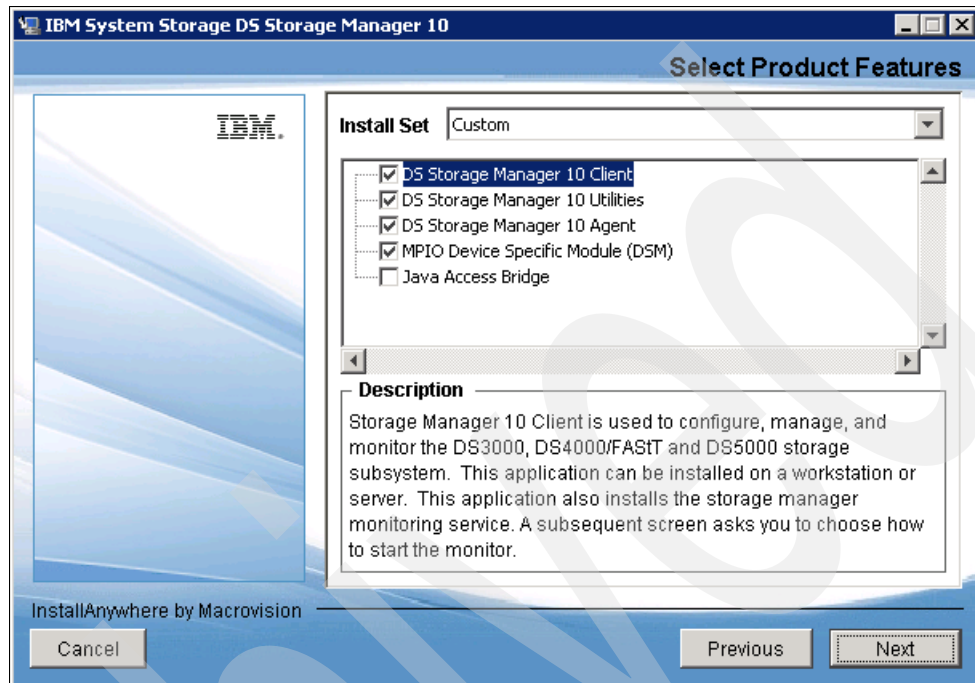

Figure 4-19 InstallAnywhere: Select Storage Manager components
- Because having only these two options can be a limitation, two additional choices are offered: Typical (Full Installation) and Custom. As the name suggests, Typical (Full Installation) installs all components and Custom installation lets you choose the components, as you can see in Figure 4-19.